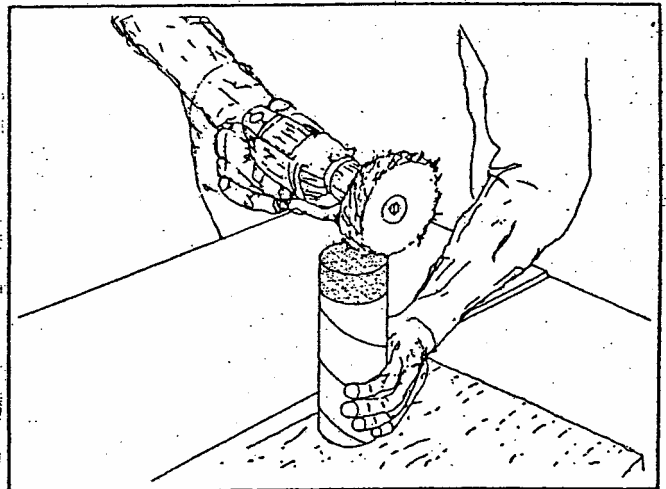

Figure 14
1. Apply the polishing compound to the buffing wheel. See Figure 14.